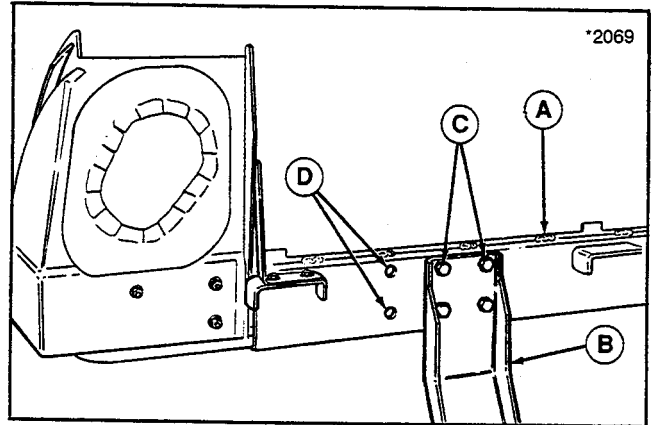

Figure 11.
15. Install horizontal bag support (A, figure 11) to upright (B) with four 3/8-16 x 7/8 capscrews (C) and flange locknuts. Install capscrews from the front and tighten when upright and support are square. Note that the open set of holes (D) is toward the discharge side of mower.